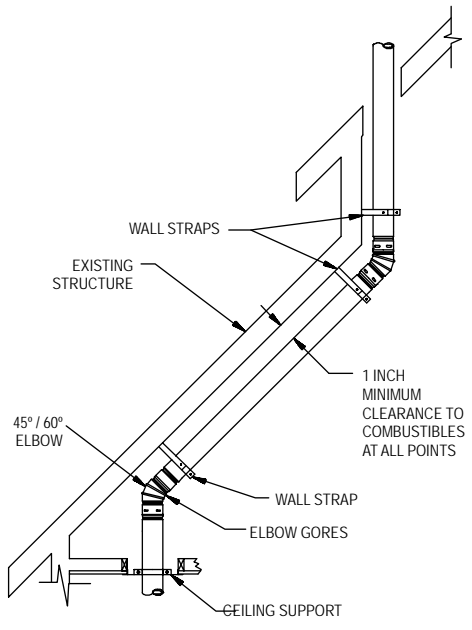

Figure 10
7. Elbows. When Elbows are required, strap the Pipe Sections and/or Elbows in place using Wall Straps. **Important:** the offset must be supported with Wall Straps to prevent the weight from stressing the elbows, as shown in **Figure 10**.